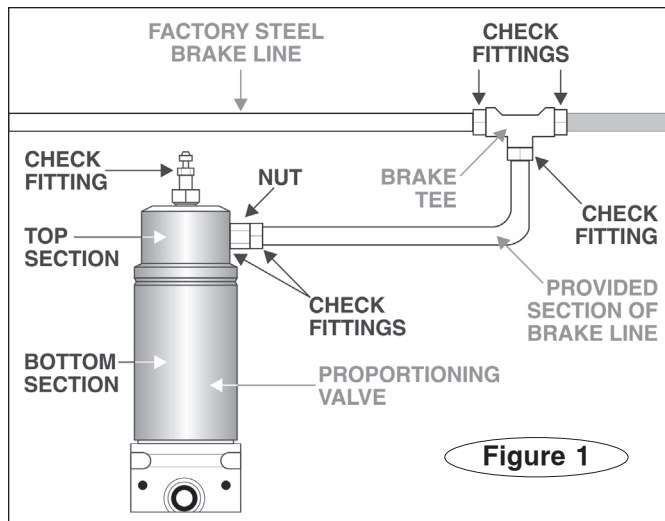

Figure 1
1. The port on the proportioning valve (Figure 1) can be rotated up to one full turn counterclockwise for easier connection to the brake line – hold the bottom section of the valve (Figure 1) in place with adjustable pliers. With another pair of pliers, turn the top section (Figure 1) until the port is at the correct position.
3. After the installation, check all the brake line fittings in the motorhome for leaks. (Figure 1 identifies the six points to check near the proportioning valve.)